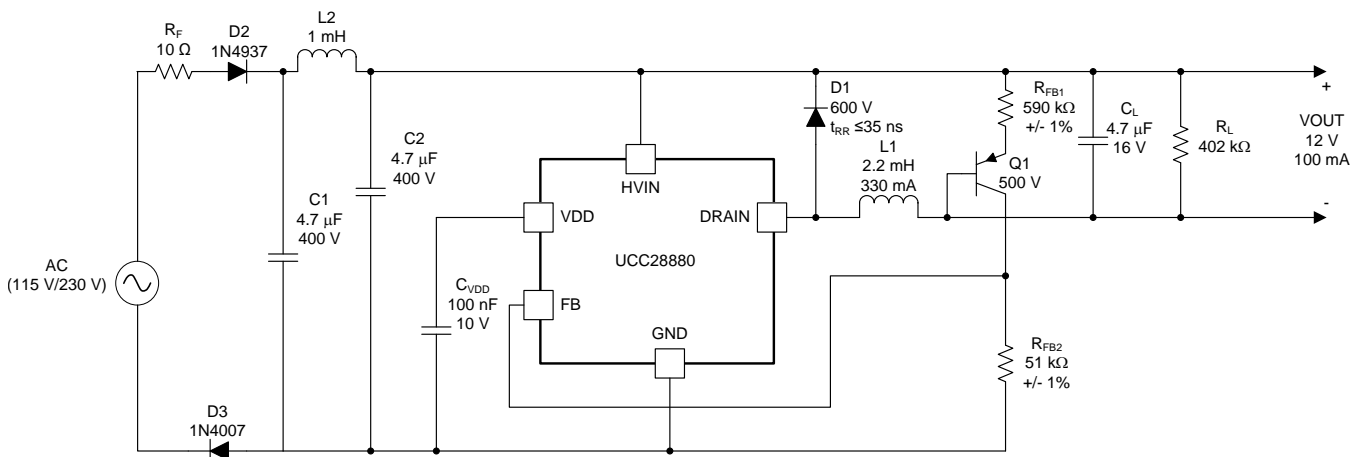

Figure 16. Universal Input, 12-V, 100-mA Output Low-Side Buck
Figure 16 shows a typical application example of a non-isolated power supply, where the UCC28880 is connected in a low-side buck configuration having an output voltage that is negative with respect to the positive input voltage (VIN+). The output voltage is set to 12 V in this example, but can easily be changed by changing the value of RFB1. This application can be used for a wide variety of household appliances and automation, or any other applications where mains isolation is not required.
- $C_{BULK(min)}$  is minimum value for the total input capacitor value (C1 + C2 in the schematic of Figure 16).